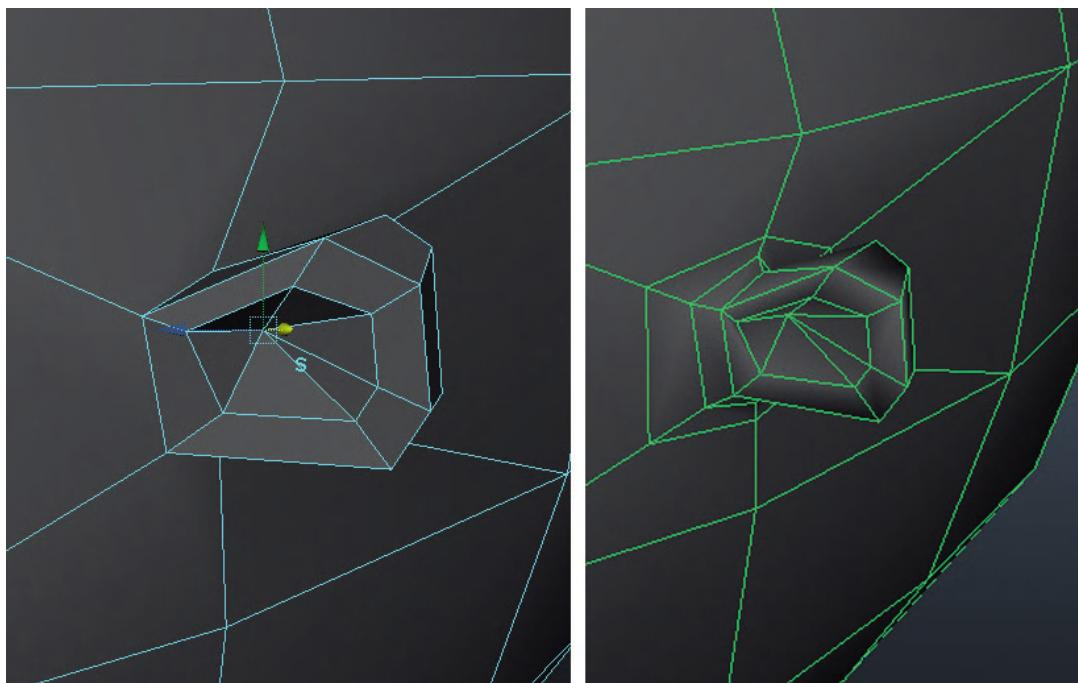

FIG. 4.84 Finishing off the ear with *Extrude* and *Insert Edge Loop*.
Step 103: Finish the ear. This is done with a quick extrude into the ear, and then a few added edge loops around the ear base to better define the connection between the ear and the head (Fig. 4.84).